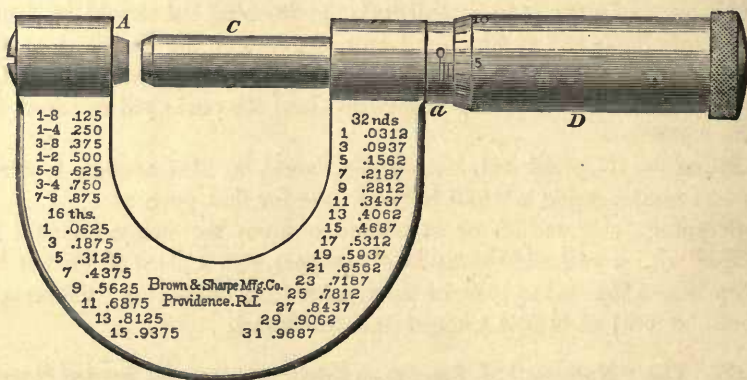

Fig. 6.
**67. Directions for reading a Micrometer Caliper.** — The work to be measured is introduced between the points of the screws *A* and *C*, Fig. 6,